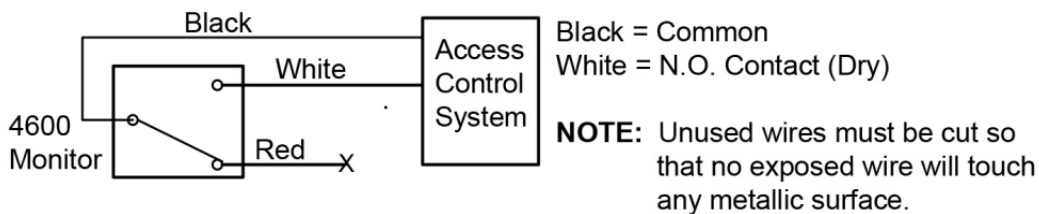

Figure 5. Example Wiring Diagram with N.O. Monitoring
1. WIRE the optional monitor switch in accordance with Table 1, "Wire Colors and Maximum Switching Current," and Figure 5, "Example Wiring Diagram with N.O. Monitoring."